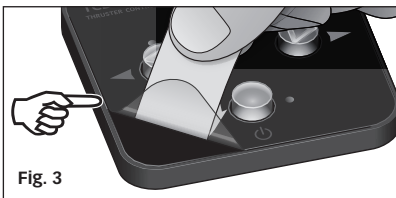

Fig. 3
- (Fig. 3) At the end of installation, remove the transparent protective film from the control surface. It is recommended to use a piece of adhesive tape to remove the transparent film.